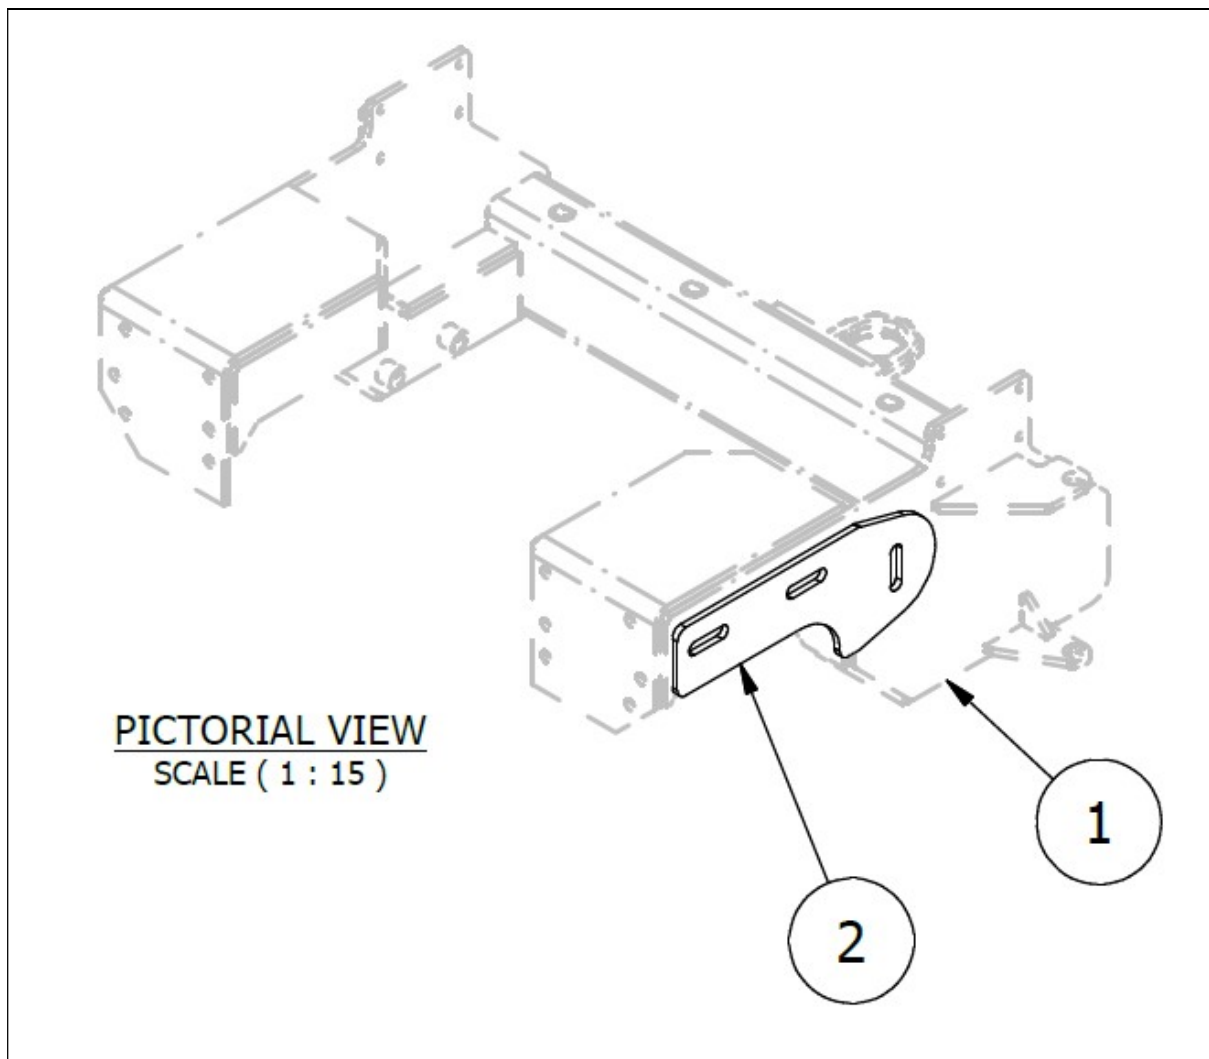

Figure 1: Front Frame Fatigue Life Improvement
To address concerns with potential fatigue cracking in the future, a strengthening doubler plate design has been developed and analysed as shown in **Figure 1**. The addition of the doubler plate reduces bending stress by approximately 40%
- Where the machine is lifted onto stands via the front frame, make arrangements with Cougar Mining Equipment for installation of doubler plate addition as per the depiction in figure 1. A lifting procedure for performing this task is also available from CME.